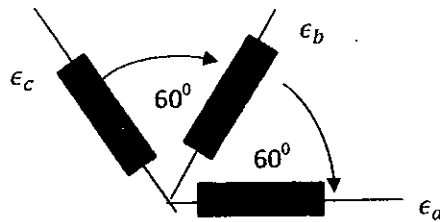

Figure Q4
- (iii) The stress state of a certain concrete component was determined using a strain rosette as shown in Figure Q4. Due to the loadings, strain gauges gave strain values as $\epsilon_a = -30 \mu\epsilon$, $\epsilon_b = 45 \mu\epsilon$, $\epsilon_c = 75 \mu\epsilon$.